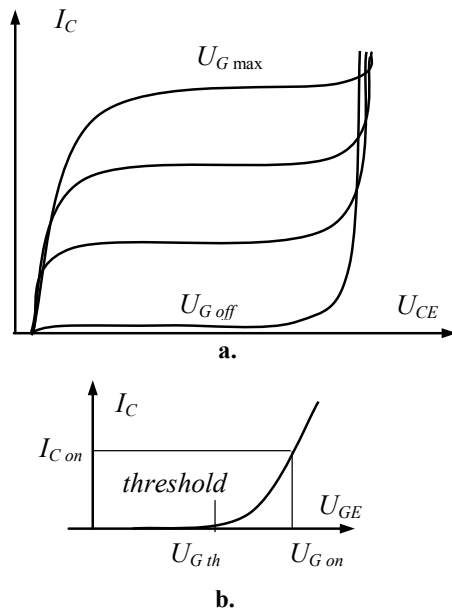

Fig. 1.46
**Characteristics.** The output curves of the *n*-channel IGBT and the input characteristic are shown in Fig. 1.46. The output curves are very similar to those of the small-signal *npn*-type bipolar transistor. The difference is that the gate signal of the IGBT is the gate voltage rather than the base current as for the bipolar transistors. Accordingly, the current of the input signal of IGBT does not flow through the gate. The transfer curve is identical to that of the power MOSFET. The curve is reasonably linear over most of the collector current range, becoming nonlinear only at low collector currents where the gate voltage is approaching the threshold.